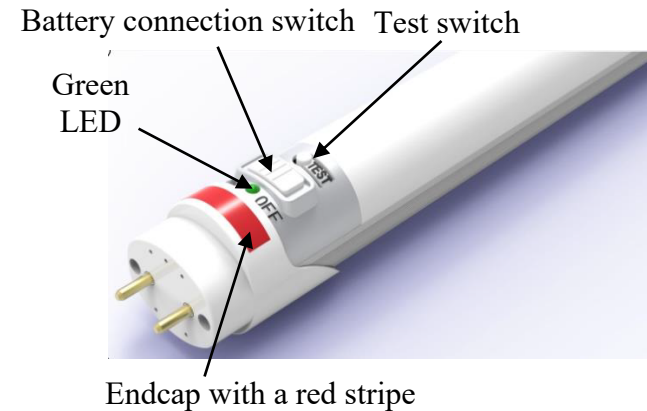

Fig. 2
8. **IMPORTANT:** Turn on a battery connection switch (see Fig. 2) near the endcap with the red stripe. The battery connection switch comes with a default “off” to prevent the built-in battery from being depleted and damaged. The lamp will be lighted in a dimmed light level powered by the built-in battery.
14. **Manual test and system reset:** Allow the lamp on the fixture for 24 hours with EMERGENCY MAINS on. Press a test switch (TS) once within 3 seconds (see Fig. 2), the lamp will test for 30 sec. Press TS twice within 3 sec, the lamp will test for 90 min. If a built-in battery voltage is not sufficient, the green LED will flicker on for 1 sec and then off for 0.3 sec, continuing for 15 sec, to indicate that the manual test is prohibited (see 14). During the manual tests, press TS once to terminate. The original schedules of the preprogrammed auto-test will not be changed. If not responding, press and hold TS for 5 seconds to reset.